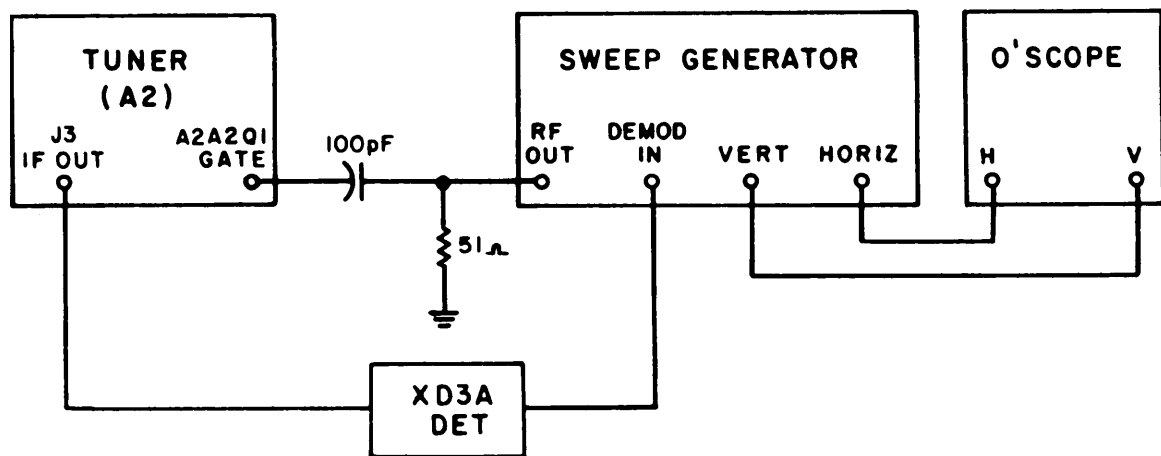

Figure 4-10. Test Setup, 20-80 MHz Tuner, Mixer Output Circuit Connection
- (1) Connect the circuit as in Figure 4-10.